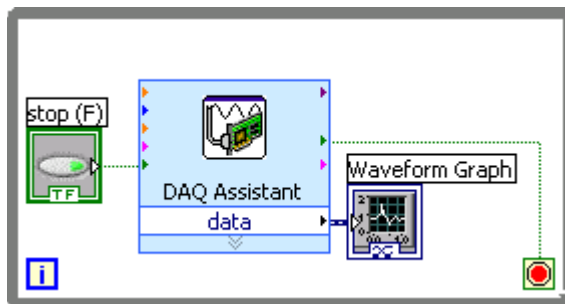

Figure 4-2. Block Diagram of the Read Voltage VI
7. Click the **Yes** button. LabVIEW places a While Loop around the DAQ Assistant Express VI and the graph indicator. A stop button appears on the block diagram wired to the **stop** input of the DAQ Assistant Express VI. The **stopped** output of the Express VI is wired to the conditional terminal of the While Loop. The block diagram should appear similar to Figure 4-2.